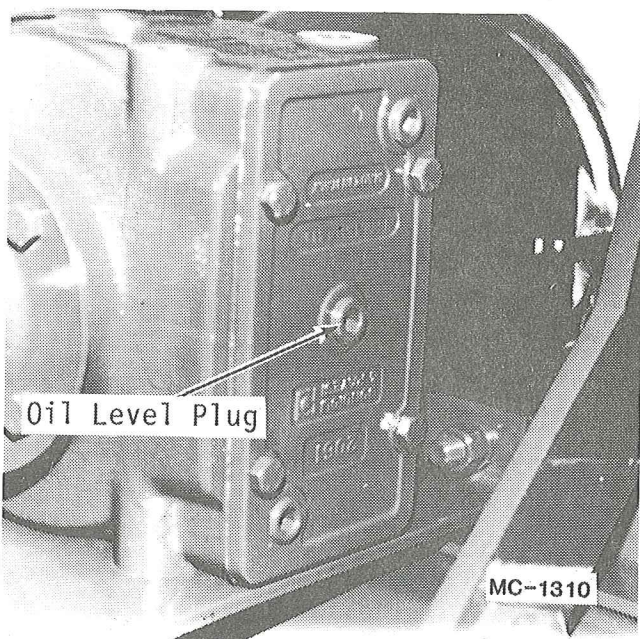

Figure 5
1. Remove the oil level plug on the right side of the gearbox and check the oil level, see Figure 5. The oil should be up to the level plug.
1. Remove the oil level plug on the right side of the gearbox and check the oil level. (See Figure 5.) The oil should be up to the level plug hole.